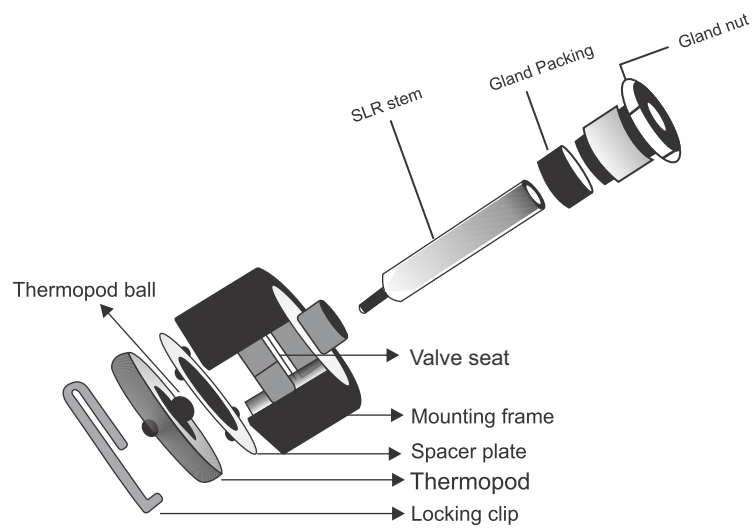

Figure 11: Maintaining the air vent and SLR assembly
(Refer to Figure 11)**
2. Remove the SLR gasket (not shown in the figure 11).